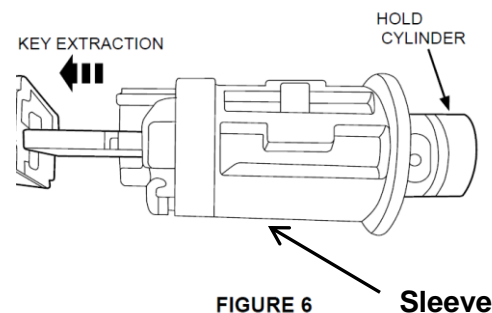

FIGURE 6
10. Hold the back part of the cylinder and carefully remove the key (refer to figure 6). Cylinder cannot be removed from housing at this point, if this occurs, the tumblers will fall out.